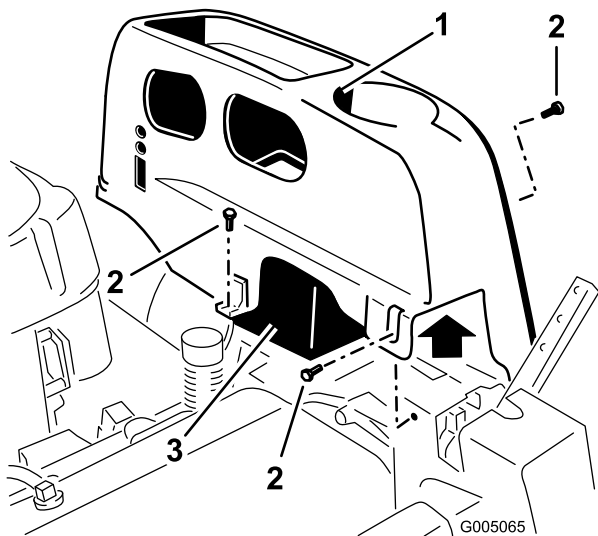

Figure 23
2. Remove the TORX® head fasteners (T25) securing the left cover to the frame as shown in Figure 23.